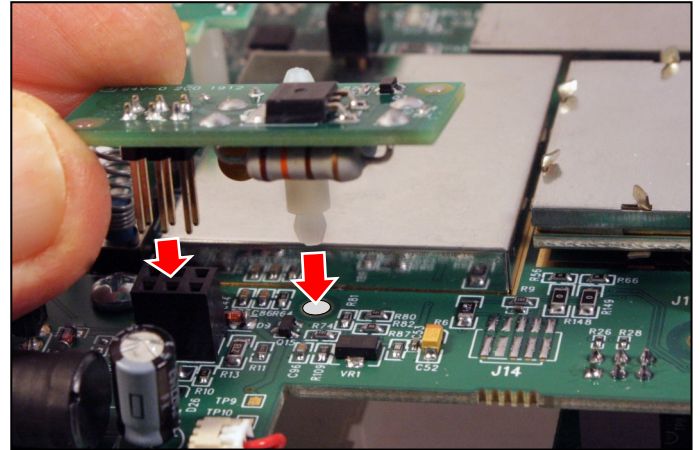

Fig. 3: Align and insert ISEC-2WF-MOD
3. Carefully align the Standoff with its hole, and align the **Header Plug** with its **Header Socket** (Fig. 3).